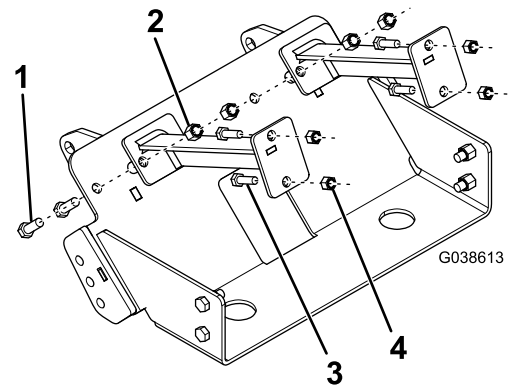

Figure 2
5. Secure the angle brackets to the vehicle frame using 4 bolts (5/16 inch) and 4 locknuts (5/16 inch) and leave the fasteners finger-tight (Figure 2).
6. Secure the angle brackets to the vehicle bumper and plow skid plate using 4 bolts (3/8 inch) and 4 locknuts (3/8 inch) and leave the fasteners finger-tight (Figure 2).